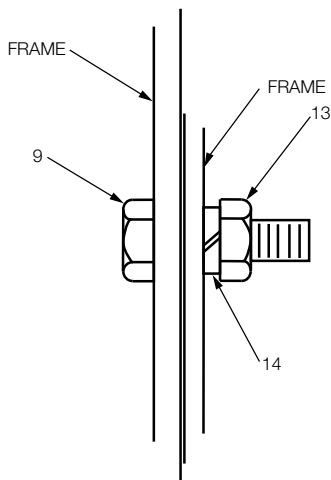

Figure 8. Assembling frame with Items 9, 13, and 14.
- Attach the lower ends of the short cross braces (Item 6) to the lower posts (Items 4 and 5) with 1.25" hex head capscrews (Item 9), and secure with lockwashers (Item 14) and .5" hex nuts (Item 13). See Figures 8 and 9.
- Attach the short cross braces (Item 6) at their midpoint with 1.25" hex head capscrews (Item 9), and secure with lockwashers (Item 14) and .5" hex nuts (Item 13). See Figure 8 and 9.